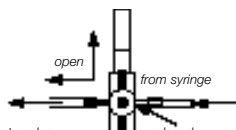

Fig. 23
- With the silicone tube immersed in the water bath, turn the three-way faucet so that the syringe is isolated from the manometer (see fig. 23).
- Carefully maintain a flow through the shunt and turn the three-way faucet as shown in fig. 23 to isolate the syringe. As soon as the three-way faucet is in the correct position, the water column should begin to drop.